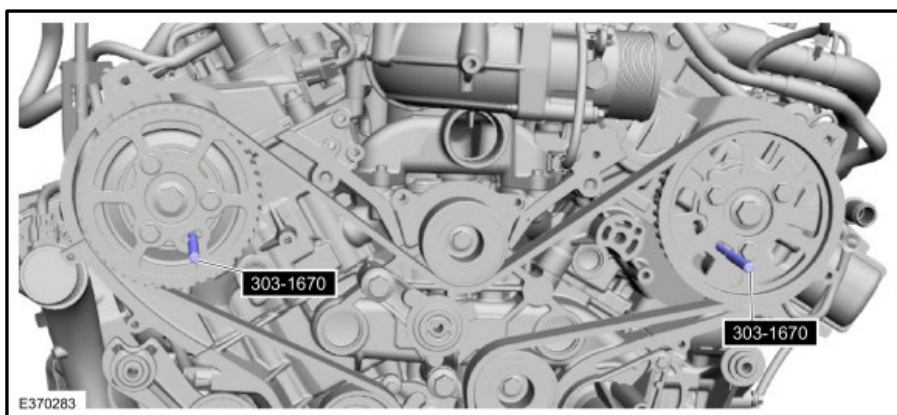

Figure 22
- P. Remove Camshaft Locking Pins Special Service Tool: 303-1670 or x2 5.9mm drill bits. Figure 22.